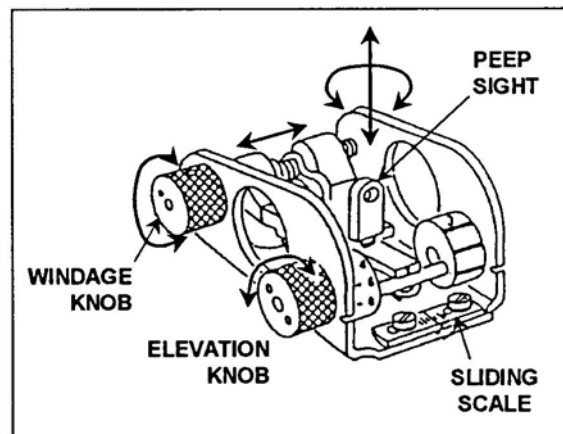
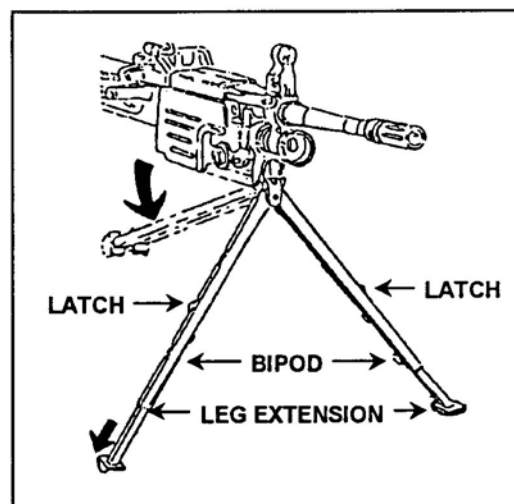

Figure 1. Sliding scale on sight.
Figure 2. Lowering the bipod.
- a. Elevation: Using the elevation knob, index the known range (300 meters) to the target. Center the peep sight by rotating it clockwise (right) as far as it will go, then rotate it counterclockwise (left) 5 clicks (Figures 1 and 2).
numbered range settings are on the left side of the scale wheel and the odd numbered range settings are on the right (Figure 1 and Figure 2).
- b. Windage. Rotate the windage knob toward the muzzle until the peep sight is completely to the right, then rotate the windage knob toward the buttstock 12 clicks to the left. This will place the peep sight in the approximate center of the sight (Figures 1 and 2).